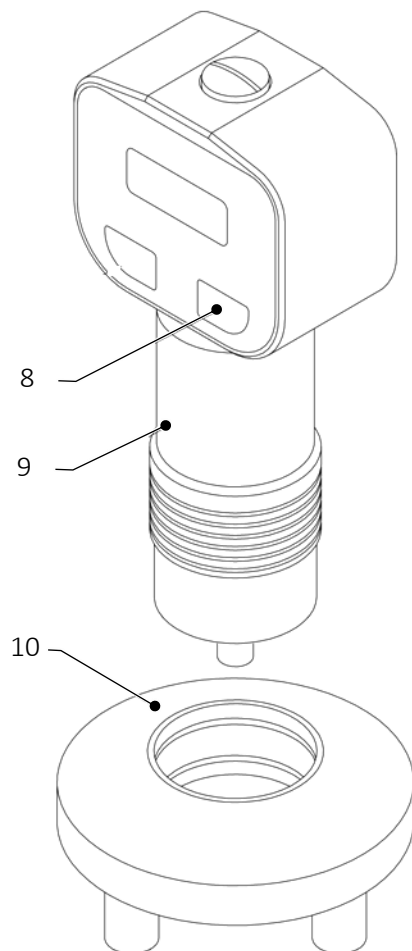

Fig. 2 Mounting the stabilizer ring
- Unscrew cover screw (1).
- If installed, pull off stabilizing ring (10, Fig. 2).
- Screw the adaptor piece (11) into the drilling for cover screw.